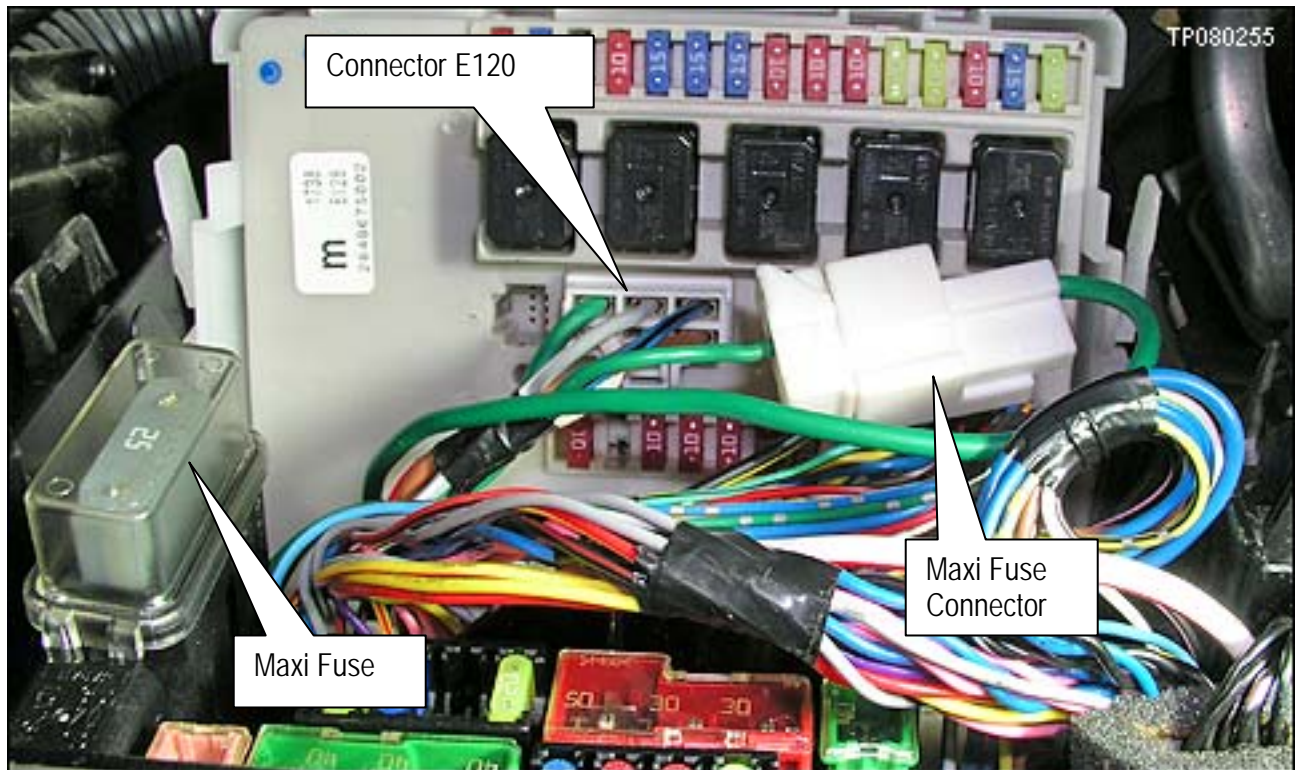

Figure E-6
9. Position the Maxi Fuse, wires, and connector into the IPDM E/R box as shown in Figure E-6.